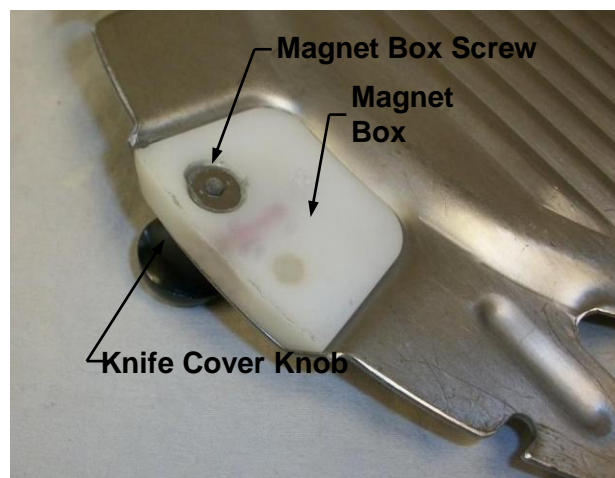

Figure 2
2. Remove existing Magnet Box from inside of the knife cover (Figure 2).